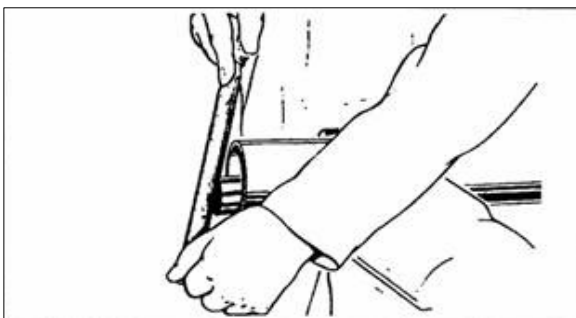

Figure 13 : Eliminating the rough edges of moulding.
- File the inner side of the female pipe and outside the male pipe appropriately. (Figure 13), and then connect them. Both pipes should move into each other easily.